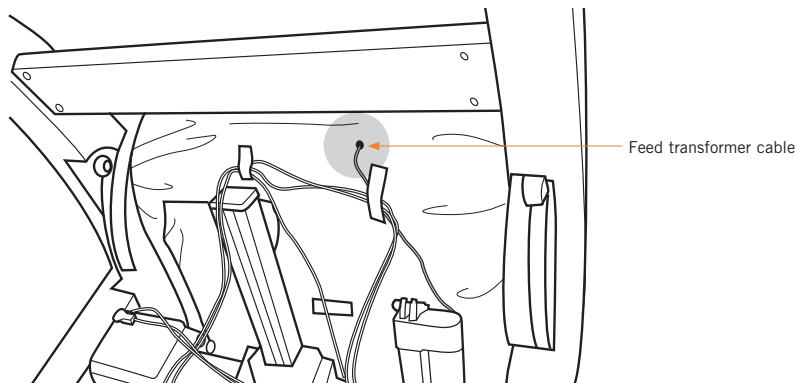

Fig.6
7. Feed the transformer cable up through the cable guide then up through the hole in the chair canvas (Fig.6).